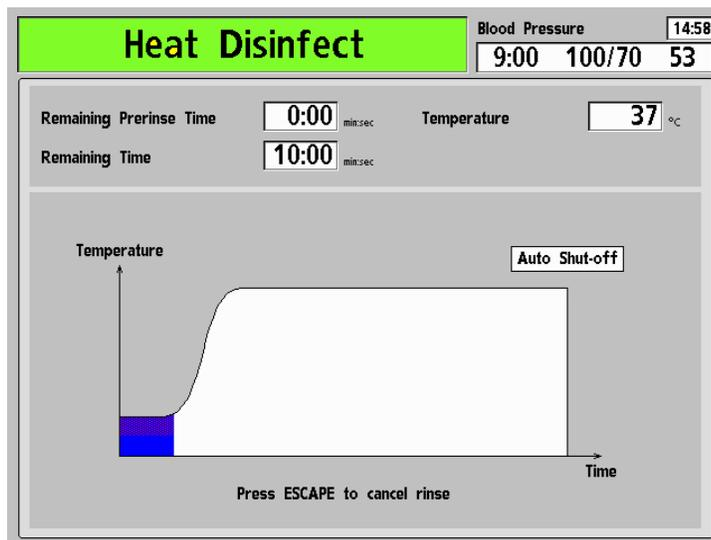

Figure 60 – The Heat Disinfection Screen
2. From the “Select Program” screen, touch **Heat Disinfect** to start the Heat Disinfect program. The “Heat Disinfect” screen appears in the control panel display (see Figure 60). If the machine was not rinsed prior to this, it will automatically run a short rinse (seven minutes) or an extended rinse (20 minutes) depending on how the machine was configured in Service Mode.